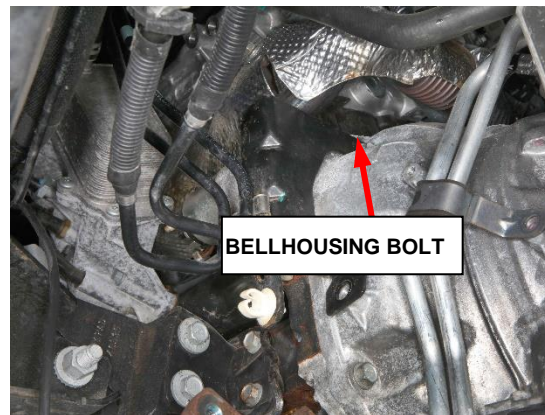

Figure 22 – Upper Bracket
42. Remove the bellhousing bolt retaining the upper bracket (Figure 22).